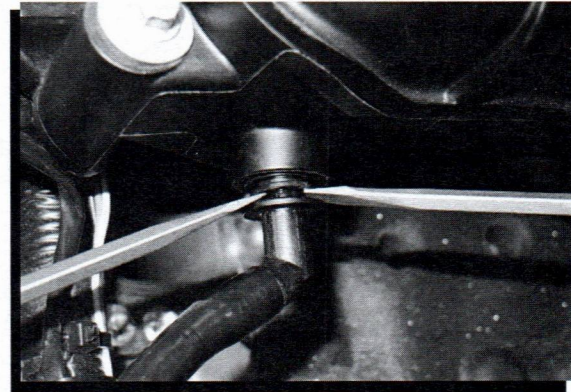

Figure 7 Removing the Brake Booster Tube.
7. The vacuum tube push-to-connect fitting must be released so that the tube can be worked out of the OEM intake. Use of two small flat tip screwdrivers provides the best access. Apply steady inward pressure to the collet ring, while simultaneously pulling outward on the vacuum tube. The vacuum tube extends over an inch into the intake where there is an internal O-ring seal. Care must be taken not to damage the plastic tube assembly (Figure 7).